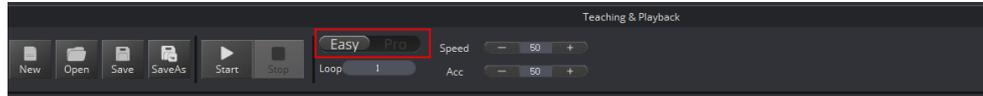

Figure 5.206 Switch advanced function
Step 2 Click **Easy** icon on the **Teaching&Playback** page, as shown in Figure 5.206.